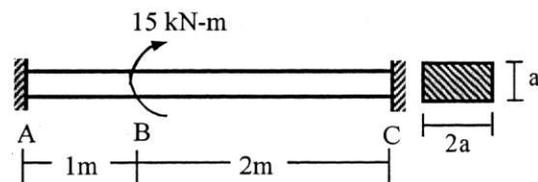

Figure 4
4. Calculate the required dimension 'a' of the rectangular rod ABC shown in the **Figure 4** if allowable shear stress is 140 MPa. For the dimension 'a', calculate the maximum angle of twist in the rod [$G = 84 \text{ GPa}$].